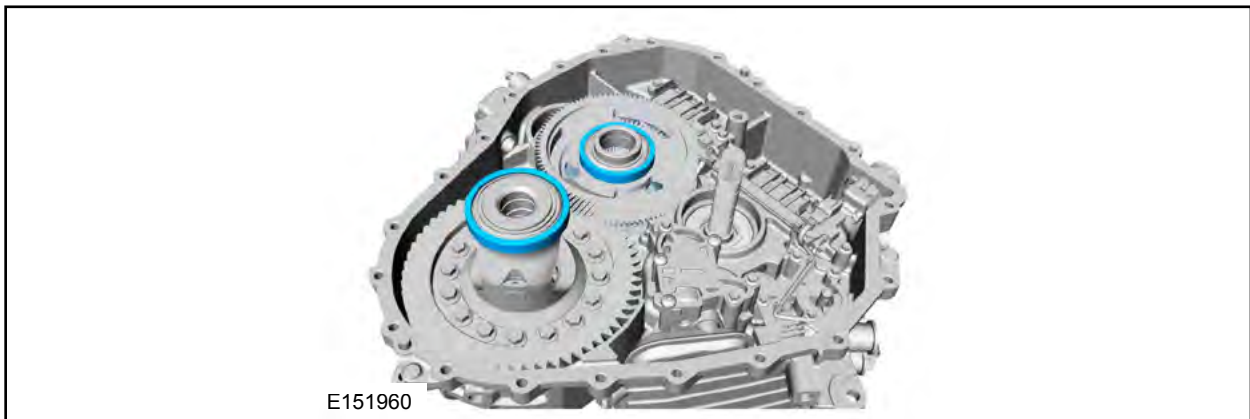

FIGURE 20
16. Place the *new* differential bearing cup and the *new* transfer shaft bearing cup on the bearings. See Figure 20.